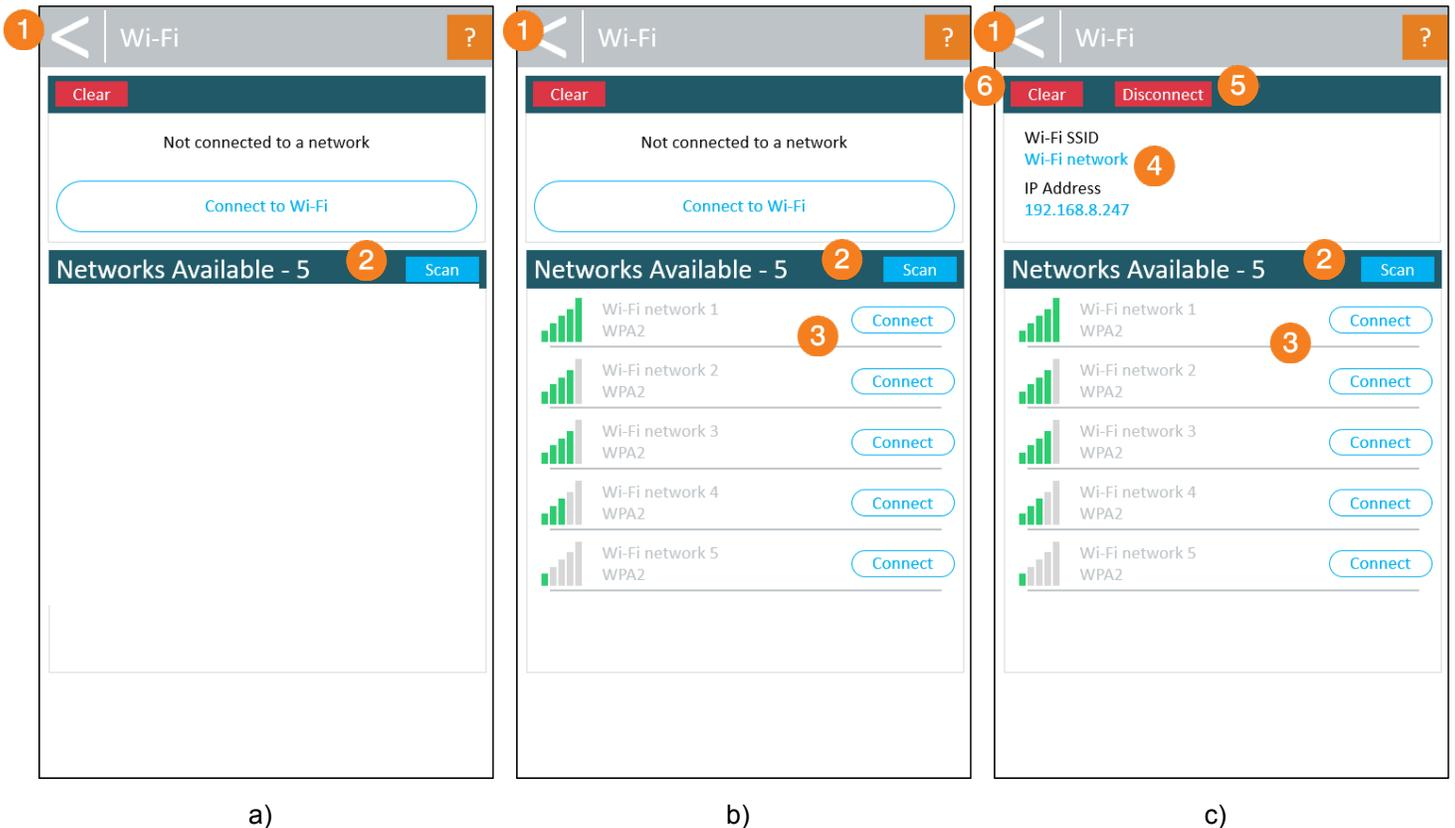

Figure 27 – *Wi-Fi* Screen (on CLCS HMI only)
The **Wi-Fi** screen (see Figure 27) allows the user to connect the MicroView 4.0 to a Wi-Fi hotspot. The procedure involves scanning for available Wi-Fi networks, and then connecting to the desired Wi-Fi network via the *Wi-Fi Authentication Screen* (see page 32).
- 2 Scan:** When setting up the system for the first time, the screen in Figure 27 a) is displayed. Press on the "Scan" button to start scanning for available Wi-Fi hotspots. A list of available Wi-Fi hotspots will appear underneath (see 3 in Figure 27 b) ).
**Note:** Once connected, the information about the Wi-Fi network will be displayed in the field at the top of the screen (see 4 in Figure 27 c) ). The "Disconnect" button (see 5) will also appear on the screen.